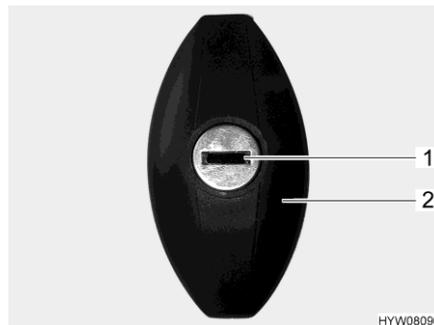

Fig. 55 Flap lock (elliptical-shaped, closed)
- Insert key into locking cylinder (Fig. 55,1) and turn one half turn in an anticlockwise direction. The lock handle (Fig. 55,2) snaps out.